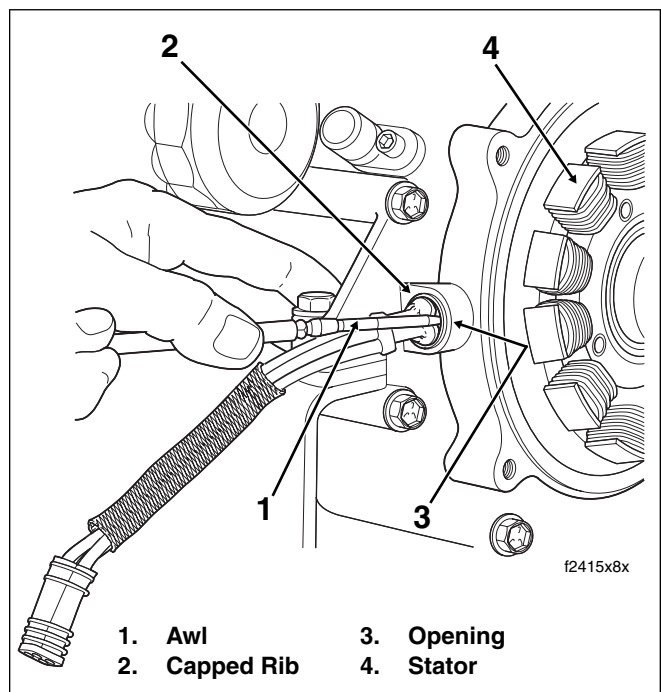

Figure 8-14. Remove Grommet From Crankcase
10. Using point of awl, carefully lift capped rib on grommet away from crankcase and then insert into bore between grommet and casting. See Figure 8-14. Tilt awl slightly squirting isopropyl alcohol or glass cleaner into opening. Repeat this step at one or two other locations around grommet.